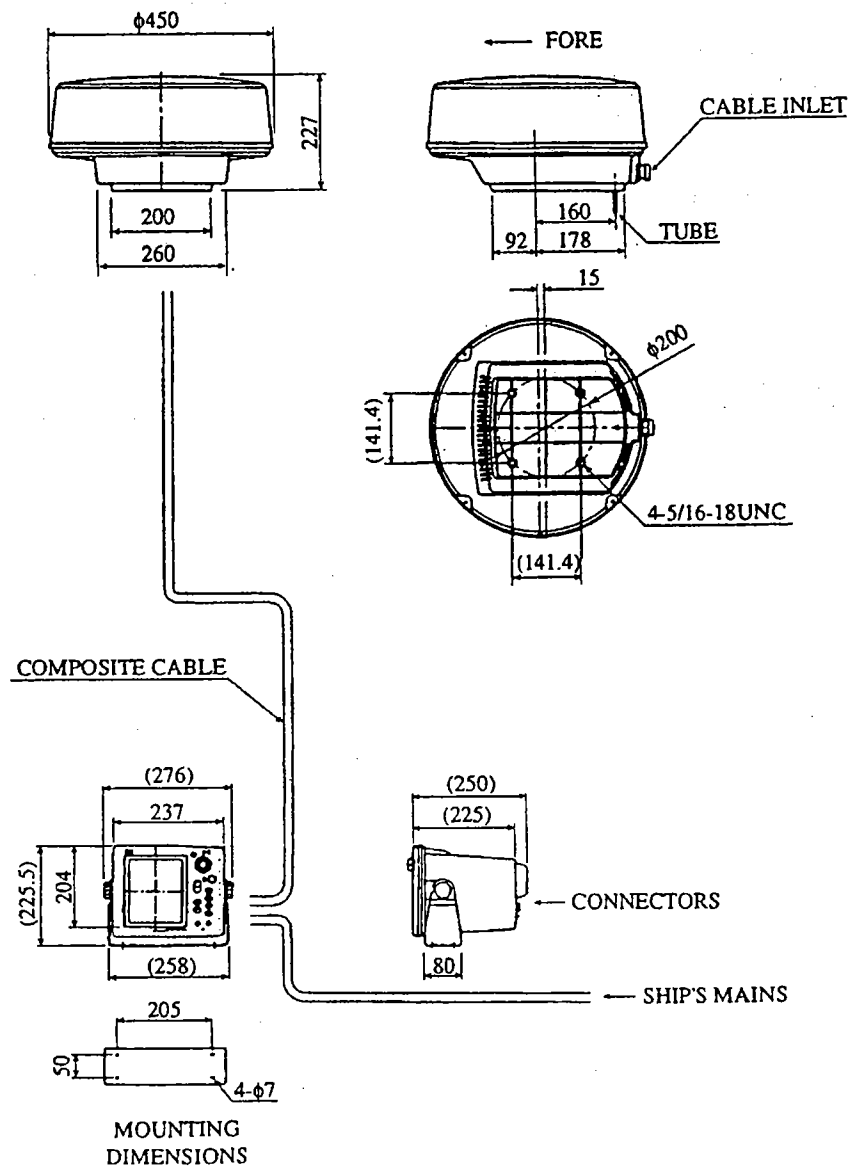

FIG. 101 GENERAL SYSTEM DIAGRAM
- Fig. 101 GENERAL SYSTEM OF RADAR 2000